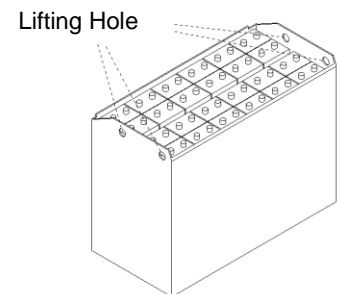

Figure 2-63
(4) Lifting description of the accumulator as shown in Figure 2-63